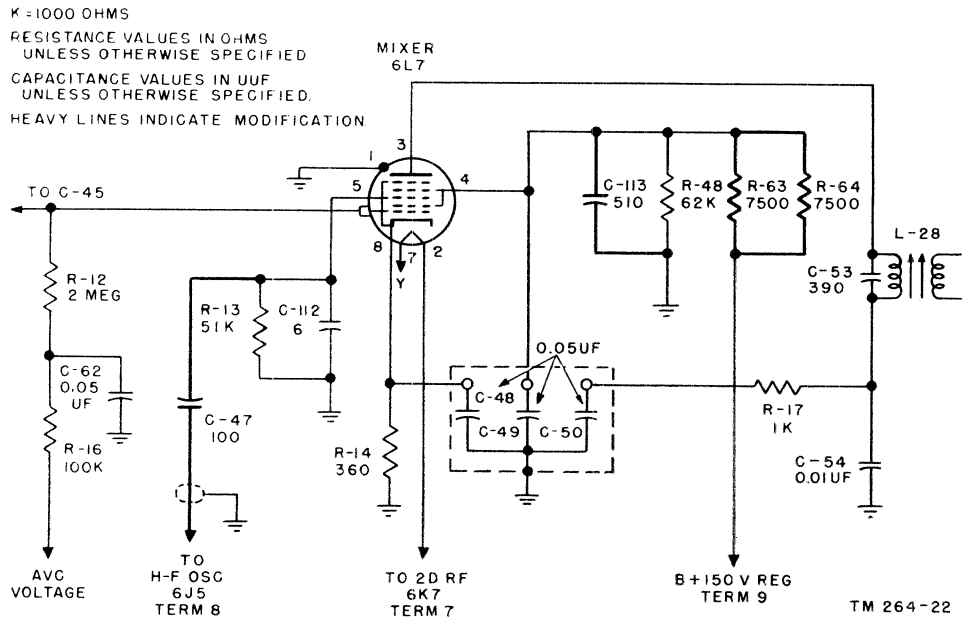

Figure 49. Radio Receiver R-336/GRC-26, mixer stage, schematic diagram.
b. MODIFICATION OF MIXER STAGE (fig. 49). D-c blocking capacitor C-47, which couples the oscillator voltage to the injector grid of the mixer tube, a tube type 6L7, has been changed to a mica type of the same value. Injector grid r-f bypass capacitor C-112, having a negative temperature coefficient, has been